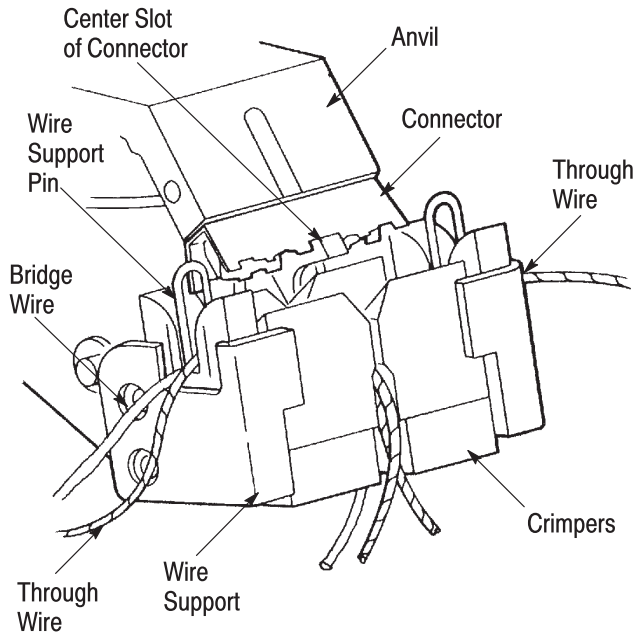

Figure 4
3.3. Bridge Splice (See Figure 4)